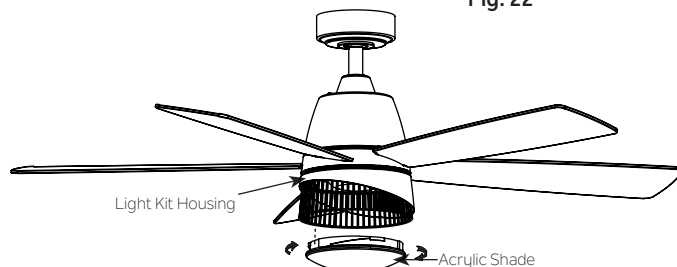

Fig. 23
Step 4. Secure the acrylic shade to light kit housing by twisting in a clockwise direction, twist the acrylic shade gradually until it snaps on to the light kit housing. Do not over - tighten. (Fig. 23)